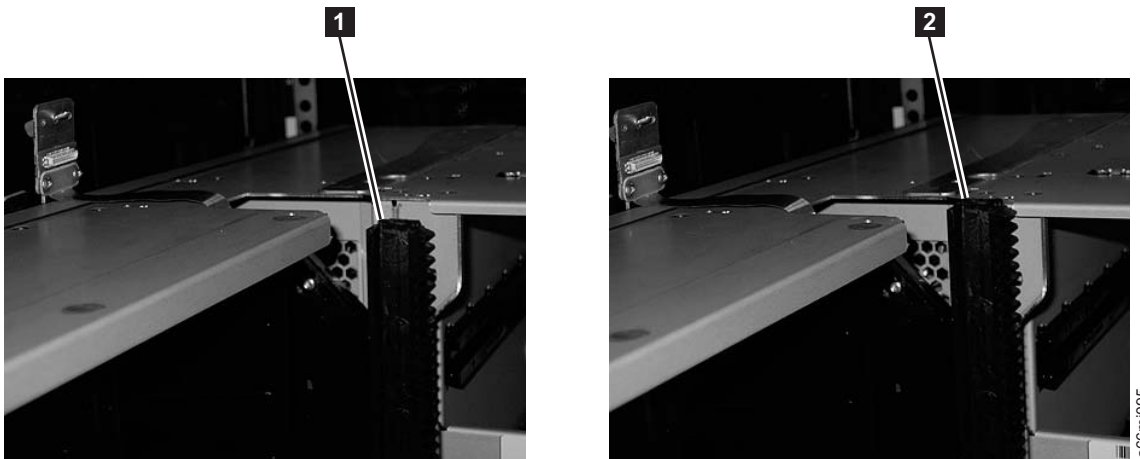

Figure 12-5. Gear racks (down and up)
1. Ensure that the front and rear gear racks are in the upper position (see **2** in Figure 12-5).